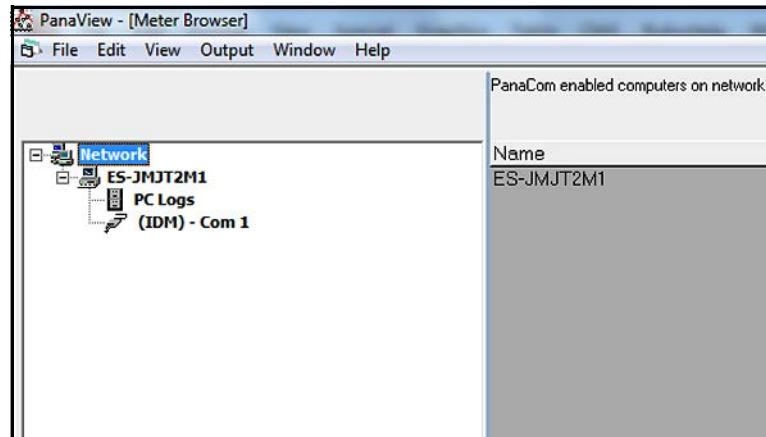

Figure 29: The New Serial Port Branch
1. Notice in *Figure 29* below that the network tree now has the newly configured communication port listed.